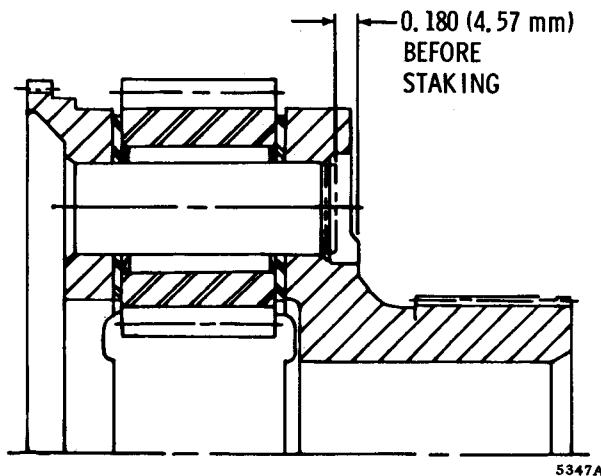

Fig. 6-26. Four-pin, low-range planetary carrier assembly—cross-section view
(3) Coat the bore of pinion 15 with oil-soluble grease, and install the pinion onto the alining tool.
(4) Install twenty-two pinion rollers 14 into the space between the alining tool and the pinion bore. Install the second thrust washer 16 onto the pinion.
(5) Remove the alining tool, and install the assembled pinion parts into low-range planetary carrier 11. Insert the alining tool to center the assembled pinion parts with the spindle pin bore in the carrier.
(6) Place the carrier assembly, hub end upward, into a press, remove the alining tool, and start spindle pin 12 into spindle bore.
(7) Press the spindle into the bore, to 0.180 inch (4.57 mm) below the shoulder surface near the hub end. Refer to figure 6-26.